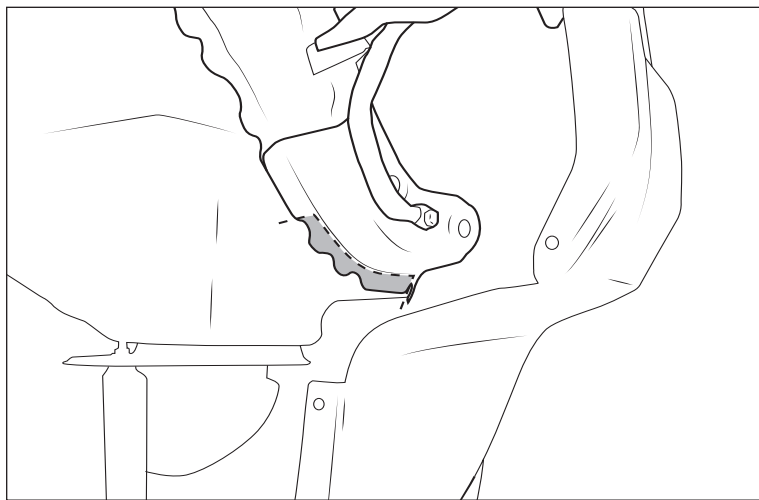

Figure 9
13. Cut pinch seams at the front of the wheel wells and remove shaded material (fig. 9).